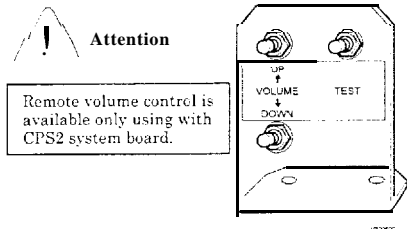

Figure 7: Test switch/Volume Bracket
23. Your cabinet may already be equipped with a test switch. An optional test switch bracket (see Figure 7) is available through your local CAPCOM distributor (part number 03-0050). When installing, the test switch bracket should be mounted inside the coin door and on top of the cash box for easy access. (See Table 3: for wiring detail)